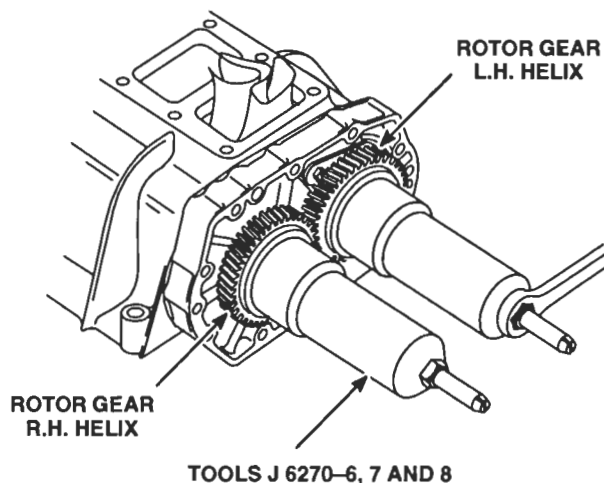

Figure 21. Installing Rotor Gears on Rotor Shafts for Preliminary Check of Clearances
- g. Thread an installer screw J 6270-8 in the end of each rotor shaft until it bottoms. Place gear installer J 6270-7 over the installer screw and against the right-hand helix gear and gear installer J 6270-6 over the installer screw and against the left-hand helix gear. Then thread a nut on each installer screw (Figure 21.)
- Thread an installer screw J 6270-8 in the end of the rotor shaft until it bottoms. Place the installer J 6270-7 over the screw and against the gear and thread a nut on the installer screw (Figure 21.)